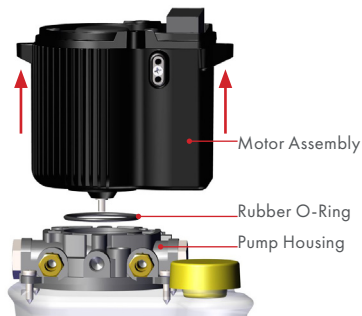

Figure 3
4. Lift the **Motor Assembly** and **Rubber O-Ring** off of the **Pump Housing**. **FIG 3**